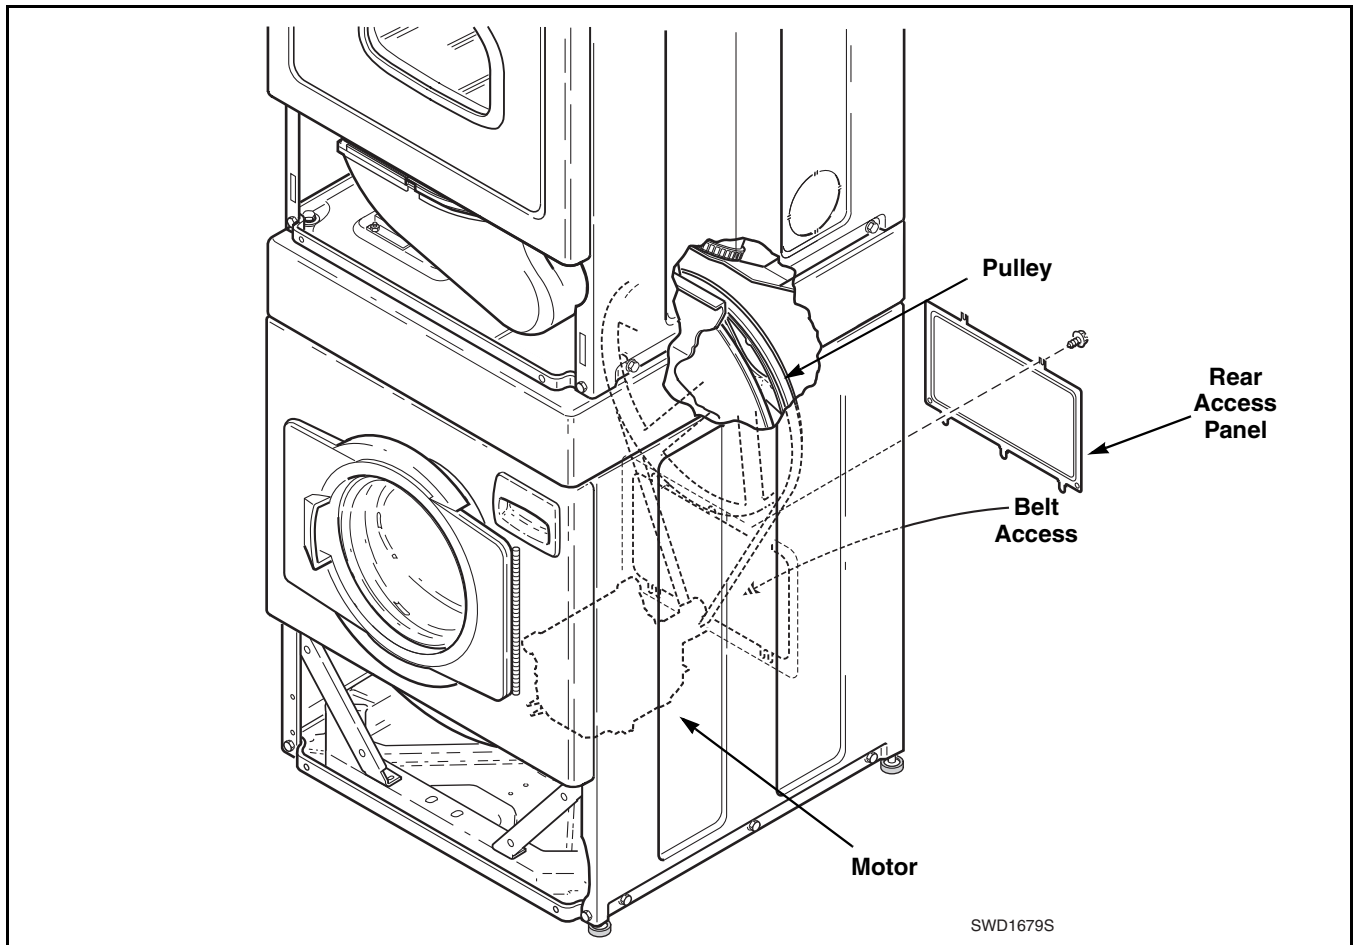

Figure 11
- a. Remove screws holding lower rear access panel to rear panel and remove access panel. Refer to *Figure 11*.